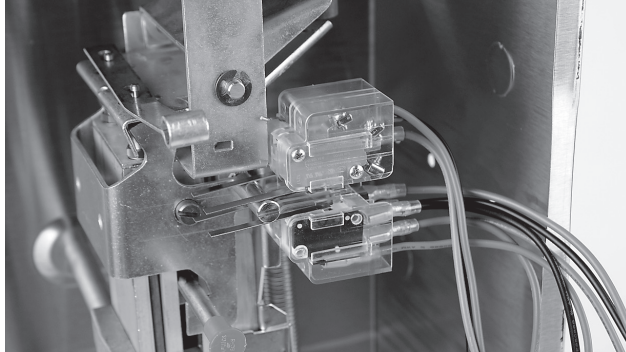

FIGURE 5-118
- 8. Slide the switch cover onto the lower tab of the switch mounting bracket, ensuring that the tab slides into the channels on the back side of the switch cover, until the screw holes line up. See Figure 5-118.